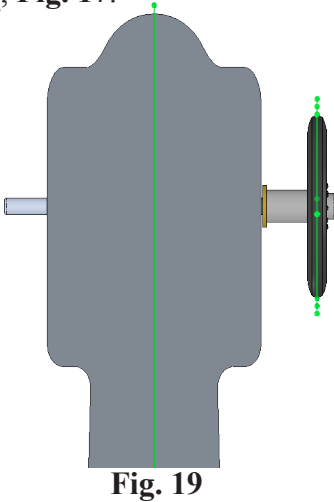
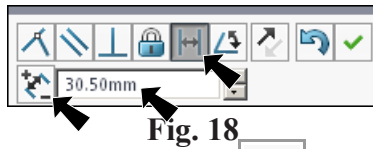

Fig. 19
Fig. 18
Step 4. Click **Distance**  in Mate pop-up, **Fig. 18**. Set distance to **30.5** and press ENTER. The Washer should set next to the Body, **Fig. 19**. If positioned in opposite direction, click **Flip Dimension**  in the Mate pop-up, **Fig. 18**. Click Add/Finish Mate  to add Distance mate.